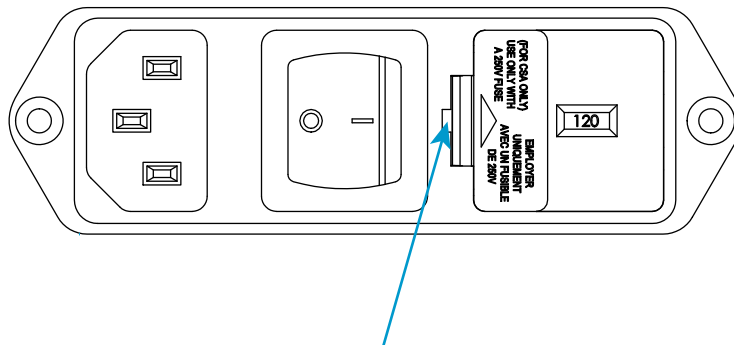

Figure 5. Prying out the fuse holder
1. Ensure that the power switch is in the Off (0) position and disconnect the power cable from the power source. Verify that no LEDs are illuminated on the frame control panel.
2. Insert a small flat-head screwdriver into the slot indicated in Figure 5 on page 42 and pry out the fuse holder.